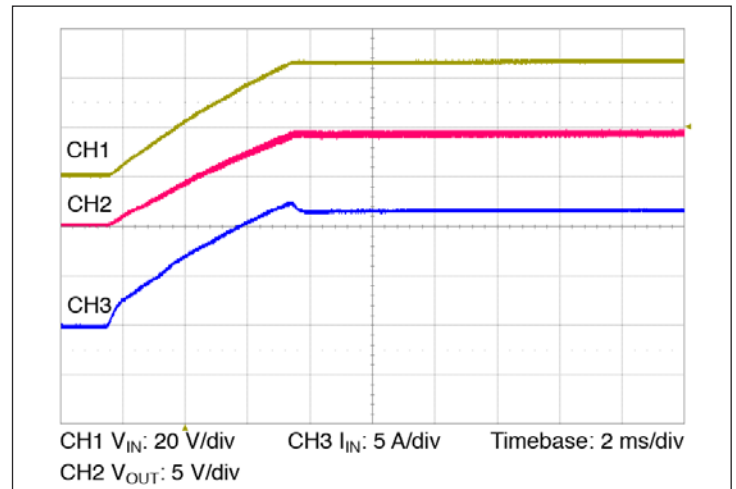

Figure 10 – Start up from application of V_{IN} ; VC pre-applied
- Normal operation (VC applied prior to V_{IN}): In this case the controller is active prior to ramping the input. When the input voltage is applied, the VTM output voltage will track the input (See Figure 10). The inrush current is determined by the input voltage rate of rise and output capacitance. If the VC voltage is removed prior to the input reaching 26 V, the VTM may shut down.